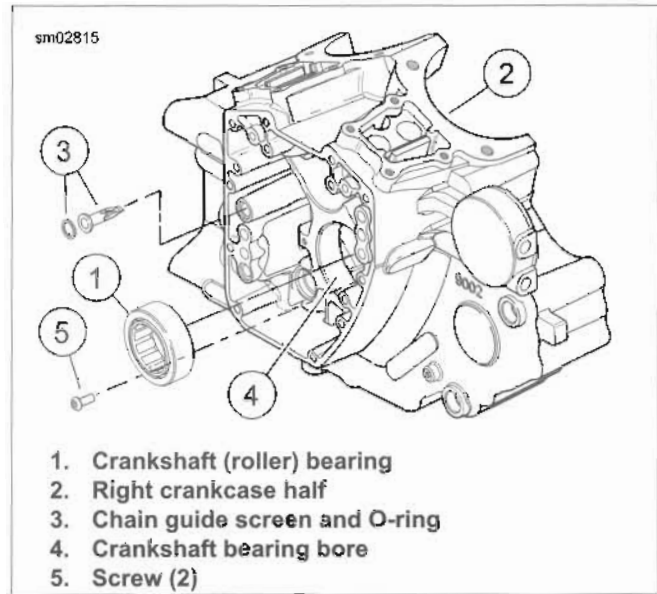

Figure 3-130. Right Main Bearing
See Figure 3-130. Remove, clean and install screen (3). Replace screen O-ring with each removal.
- See Figure 3-130. Remove two main bearing retaining screws (5) from the cam compartment side.
10. See Figure 3-130. Install two **new** main bearing retaining screws (5) from the cam compartment side. Tighten screws to 40-70 **in-lbs** (4.5-7.9 Nm).